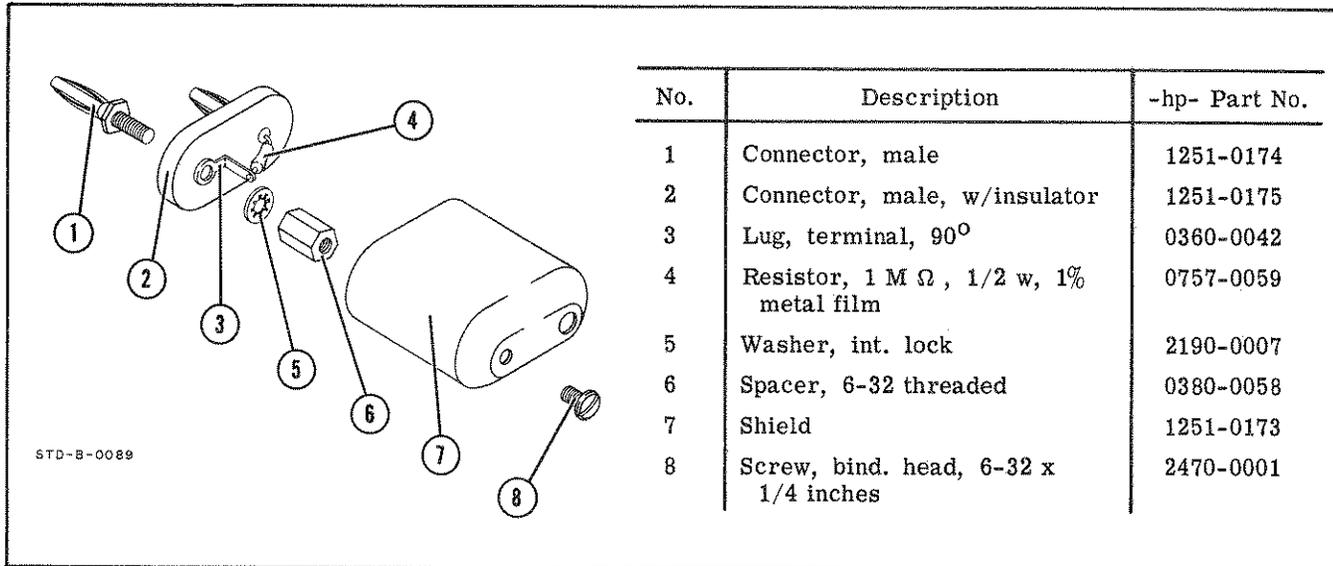

Figure 5-3. Shielded Load for Residual Noise Check
- a. An AC Voltmeter (-hp- Model 331A) and a 1 megohm shielded resistor (refer to Figure 5-3) will be required for this test.